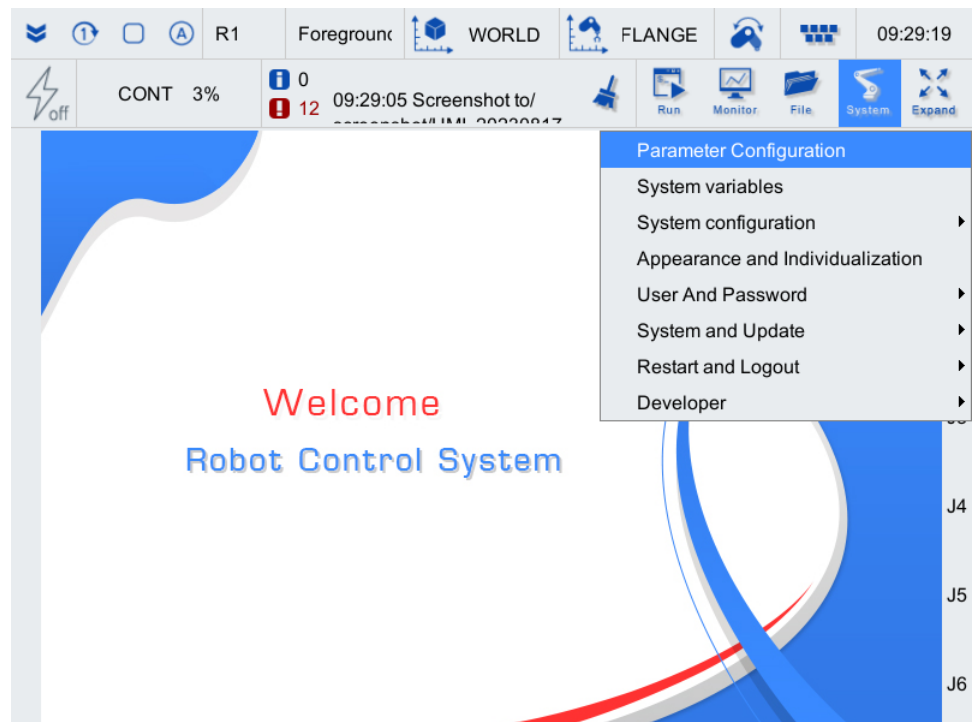

Figure 5-7 System related dropdown list
Step2. Click on [System/Parameter Configuration] in the upper right corner menu area, as shown in Figure 5-7.